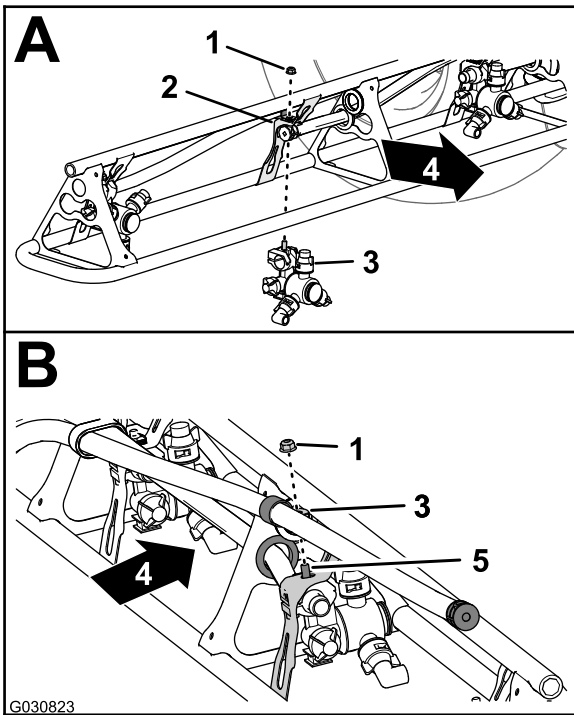

Figure 144
- At the nozzle positions 1 and 4, assemble the sprayer nozzle to the nozzle mount (A of Figure 144) with the flange locknut (5/16 inch) that you removed in step 2 of Removing the Sprayer Nozzles from the Outer Boom Sections (page 61).
- At the nozzle positions 2 and 3, assemble the sprayer nozzle to the nozzle mount (A and B of Figure 144) with the flange locknut (5/16 inch) that you removed in step 2 of Installing the Sprayer Nozzles at the Outer Boom Sections (page 66).